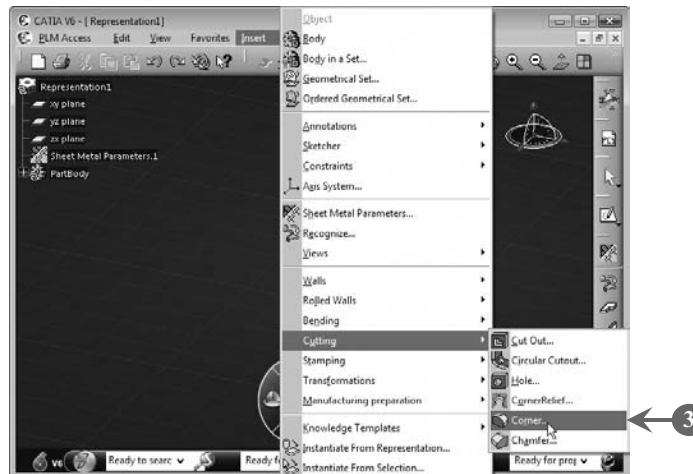

FIGURE 6.91
3. Select **Insert > Cutting > Corner** from the menu bar to create corners, as shown in **Figure 6.91**: